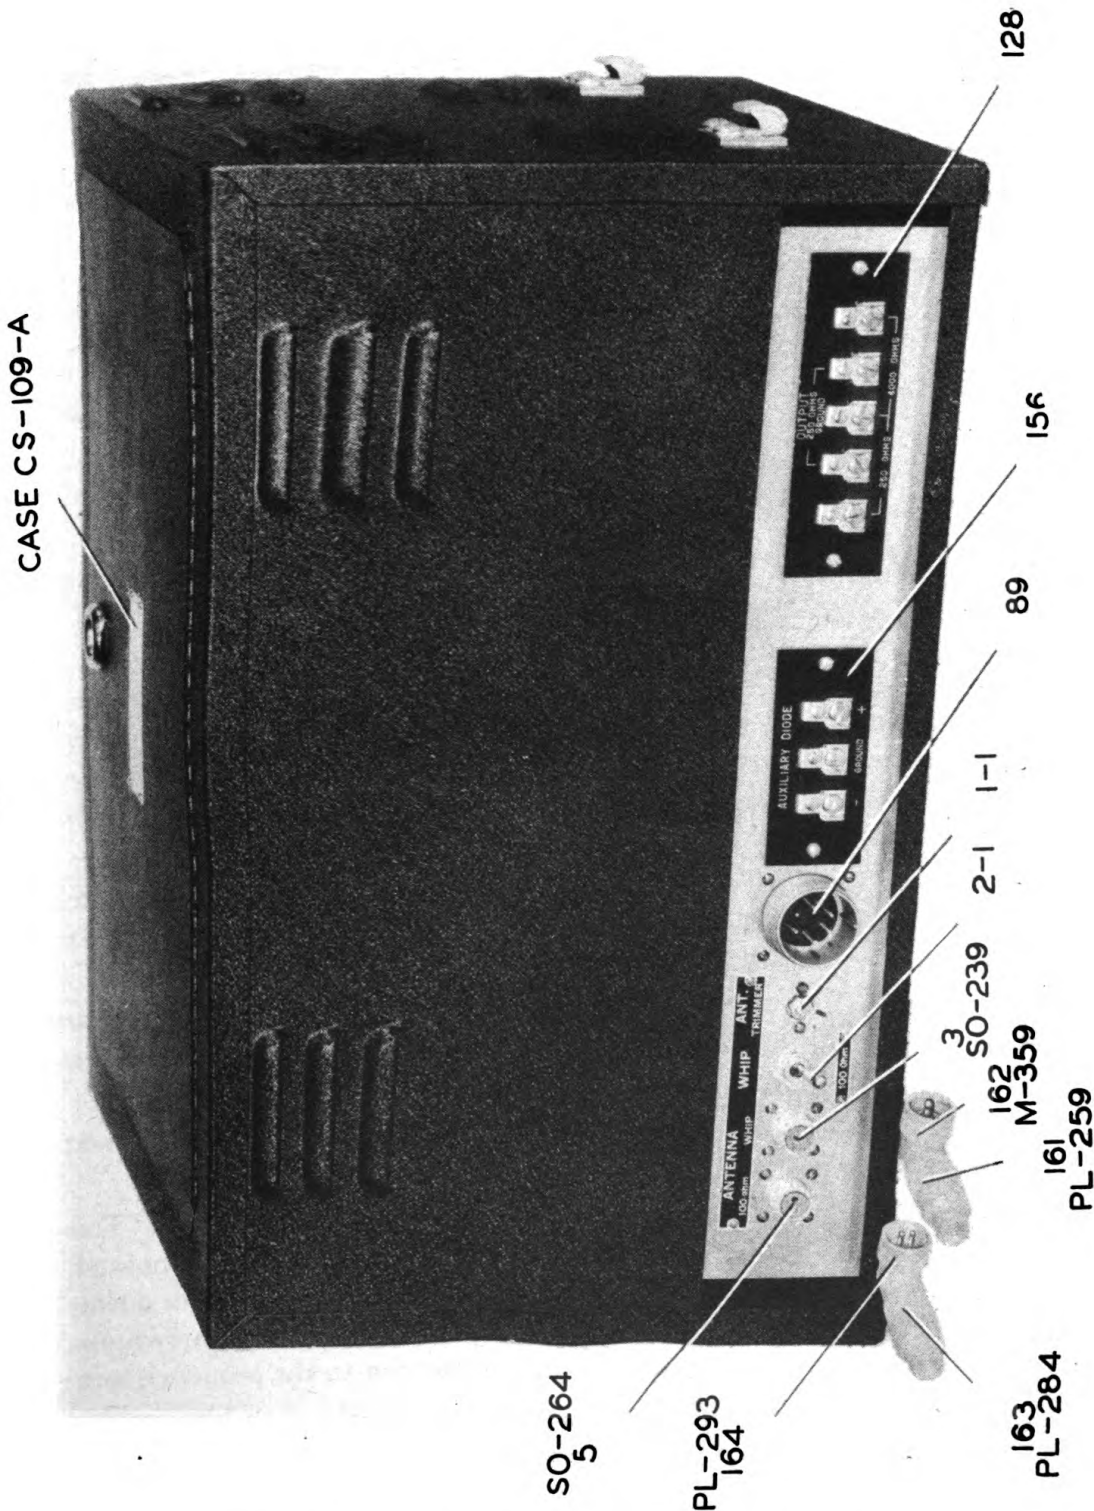
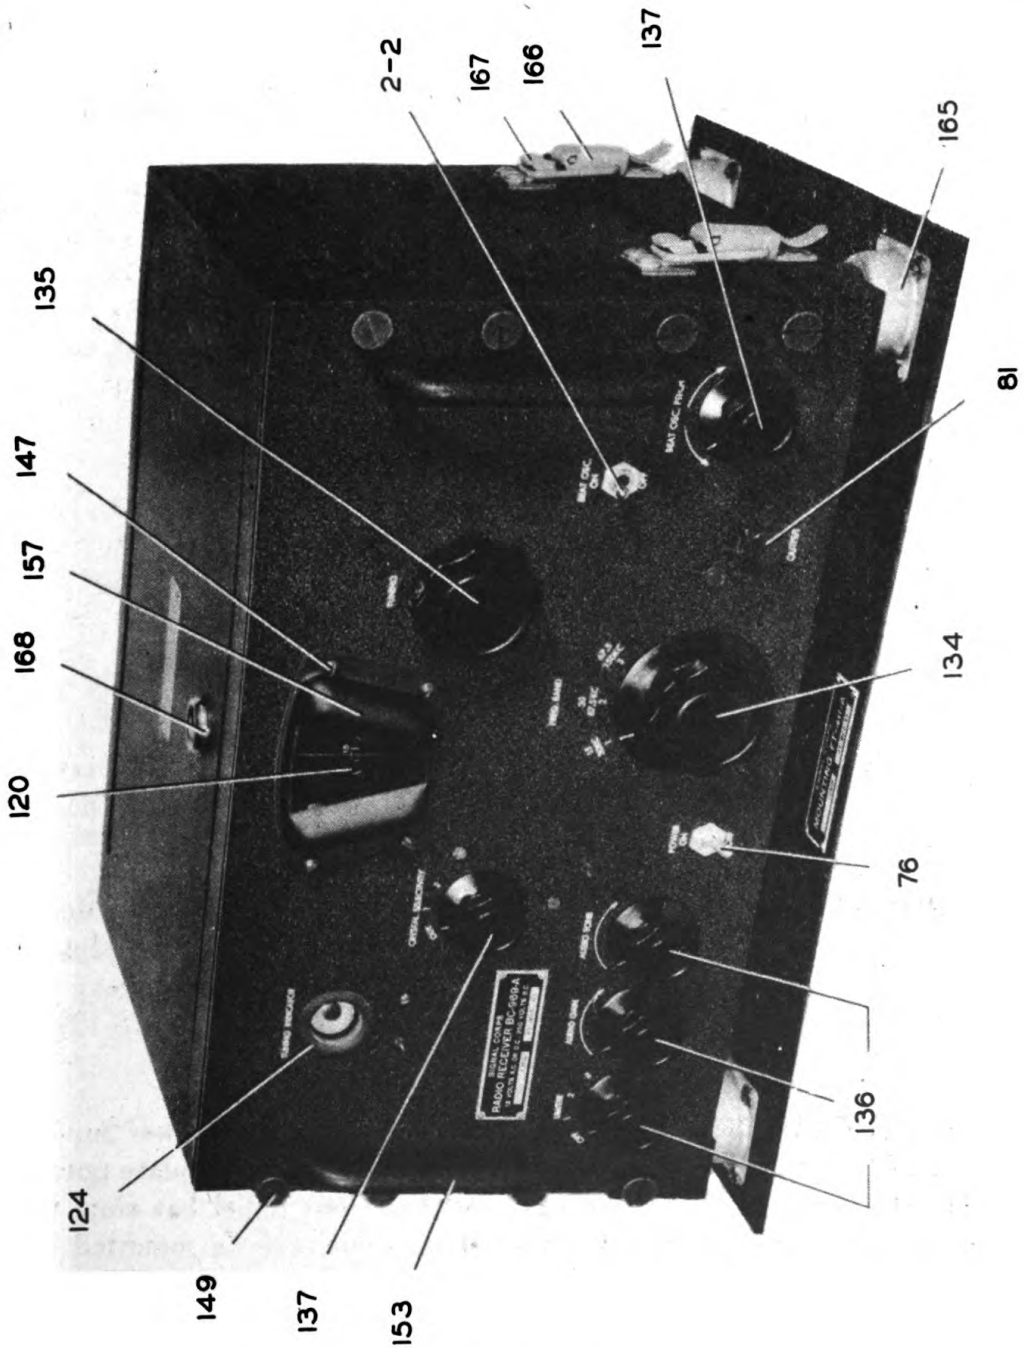

Figure 2. Radio Receiver BC-969-A, back view
Figure 3. Radio Receiver BC-969-A in Case CS-109-A on Mounting FT-411-A, front view
(1) **ANTENNA 100 ohm.**—This connection is marked 100 ohm under ANTENNA (figure 2). Plug PL-284 is connected to Socket SO-264, through Adapter PL-293. This connection is normally for a balanced transmission line but you can, if necessary, use it with either side of the input grounded to the chassis. The antenna should be as long as possible in order to balance the line for the best results. The proper antenna would be 9300 feet long, or nearly two miles, but the receiver will operate with a much shorter antenna; in fact, good reception is possible with less than 100 feet of antenna even on the 100 ohm input.
c. Operating controls.—The main controls for operating the receiver are on the front panel (figure 3).
(1) TUNING knob.—The TUNING knob has a ratio of 36 to one. It turns 18 times in covering the range of each of the three frequency bands.
(2) FREQ. BAND knob.—This control selects the desired frequency band.
(3) LIMITER knob.—This knob controls the noise limiter circuit. At OFF the limiter is not working. Positions 1, 2, and 3 give increasingly more limiting of noise.
(4) AUDIO GAIN control.—This knob controls the volume of the receiver.
(5) AUDIO TONE control.—As this knob is turned to the right (clockwise), the higher audio frequencies are cut off. It is also used to decrease the effect of certain types of interference.
(6) CRYSTAL SELECTIVITY control.—This knob controls a switch having three positions. When the pointer is at OUT, the crystal filter isn't working. Positions 1 and 2 give two degrees of crystal selectivity. The crystal filter is used to filter out channels close to the one being received; hence, it is especially useful in receiving CW.
(7) BEAT OSC. PITCH knob.—This control adjusts the pitch of the beat oscillator over a range of 5000 cycles either side of the center position.
(8) POWER ON-OFF switch.—This switch controls the a-c input to the power supply unit through Cord CD-872; it turns the power to the receiver on and off.
(9) BEAT OSC. ON-OFF switch.—This switch turns the beat oscillator on and off.
(10) WHIP-100 Ohm antenna switch.—(See Figure 2.) This switch (on back of chassis) changes the antenna connections as marked, depending on the type of antenna you are using. When thrown downward toward 100 Ohm the whip antenna is grounded. When thrown upward toward WHIP, the whip antenna is connected to the proper circuit.
(11) ANT. TRIMMER.—This trimmer couples the whip antenna and is seldom adjusted. It is adjusted and locked in position as the receiver is issued and must not be changed except in special cases*.
4. CASE CS-109-A.—Case CS-109-A houses Radio Receiver BC-969-A. It is made of steel and has ventilating slits and four hooks used to attach it to the Mounting FT-411-A (figure 3).
5. MOUNTING FT-411-A.—This is a shock-proofed mounting made especially for installing the receiver in a vehicle. It has a steel bedplate and rubber shock mounts to which are bolted two support angles. On the angles are four catches which clamp on to the hooks on Case CS-109-A and fasten the two together (figure 3).
b. Remove the four thumbscrews which hold the escutcheon (157), covering the dial, to the front panel (figure 3). Take off the escutcheon and see that the two pilot lights are properly in place in their sockets. Replace the escutcheon and thumbscrews.
(1) Make sure the 5U4G tube is all the way down in its socket.
(2) See that the screw terminals of Cords CD-872 and CD-87 are tight. Check the leads to see that the right color is on each terminal
(1) Connect Cord CD-872 to the six-prong receptacle (figure 2) on the back of the receiver. Push the connector into this receptacle and tighten the knurled locking ring so that the plug is securely seated. The plug can't be put in wrong because of the key and keyway on the receptacle and plug. Normally the right angle portion of the plug is upward; however, it can be put together so that the right angle portion points in any of eight directions. It will work in any of these positions with the receiver in Mounting FT-411-A but a specific position may have to be used for some special installation.
(2) Connect the antenna after deciding which plug to use. If you are using a long antenna (over 50 feet), plug it into the twin conductor PL-284 which connects to the socket marked ANTENNA 100 ohm on the chassis (figure 2). When using the 30-foot whip antenna, or any antenna less than 50 feet long, plug it into the single conductor PL-259 which connects to the socket marked ANTENNA WHIP (figure 2).
(3) See that the antenna switch (figure 2) is in the proper position. Throw it to WHIP if you're using a whip antenna or to 100 ohm if you're using a long antenna.
(4) See that the ANT. TRIMMER (figure 2) is properly set. The normal setting is marked by a line on the rear panel; the slot of the trimmer should point to the line and the black half of the trimmer screw should be towards the bottom of the receiver. This trimmer is set and locked in the proper position before the receiver is issued so that best results are obtained with any antenna. However, if you find that the trimmer is set with the slot more than 10 degrees off the line, loosen the hex. locking nut with a wrench or long nose pliers, reset the slot to the line, and tighten the nut. For other than normal setting see paragraph 3c(11).
(5) Determine the type and impedance of the output device to be used. If it's a loudspeaker, connect it to the rear OUTPUT panel at the proper impedance points (see paragraph 3b(3) and figure 2). When Headset HS-30 is used, plug it into the OUTPUT jack on the front panel.
(7) Make sure there is a ground connection from the receiver chassis to the frame of the TC-8 or TC-9 or to actual ground. You can make this connection to the center screw terminal of either the AUXILIARY DIODE panel or the OUTPUT panel on the rear of the receiver chassis (figure 2). Both of these are connected to the chassis and are marked GROUND. **DON'T FORGET TO DO THIS OR YOU'LL GET AN ELECTRIC SHOCK IF YOU TOUCH ANY PART OF THE RECEIVER.**
(8) Fasten the trunk catches on Mounting FT-411-A to the receiver.
(9) Fasten the trunk catches on Mounting FT-414 to the power unit.
(10) Now plug Cord CD-873 into the power line and the set is ready for operation.
12. OPERATION.—a. Initial control setting.—(1) Turn the POWER switch to ON and allow one minute for the tubes to warm up. The dial lights should light and after about one minute, the tuning indicator tube should show a greenish glow.
(2) If the dark part of the TUNING INDICATOR (figure 3) is not toward the bottom of the receiver, lift the case lid and turn the base of the tube until the dark section is downward.
(3) Set the LIMITER control to OFF.